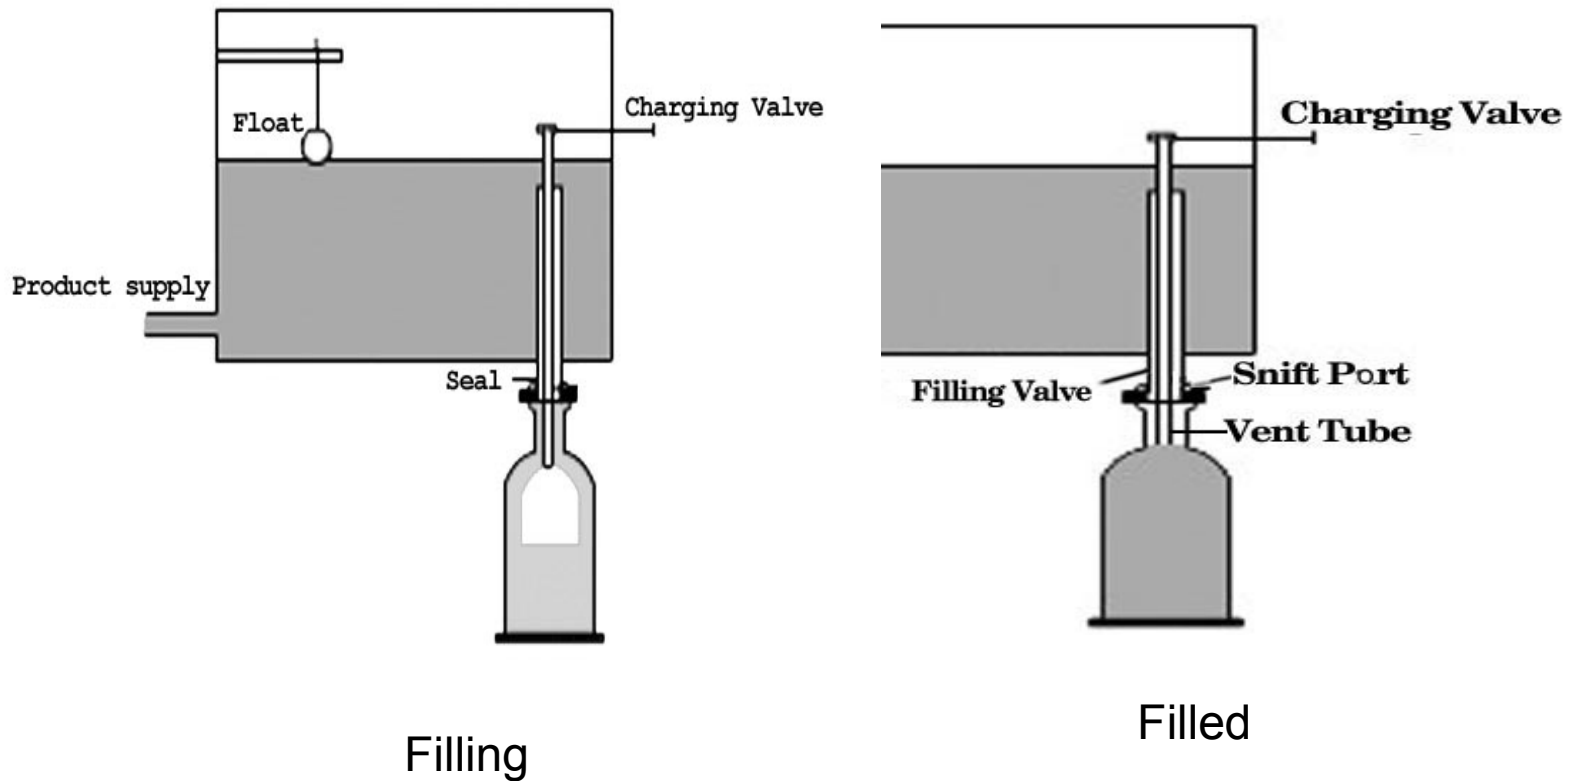

Figure 20.19 Pressure gravity filling
- Pressure gravity filling (Figure 20.19) is a process that was developed specifically to help hold the CO₂ in the carbonated beverages during the filling operation.